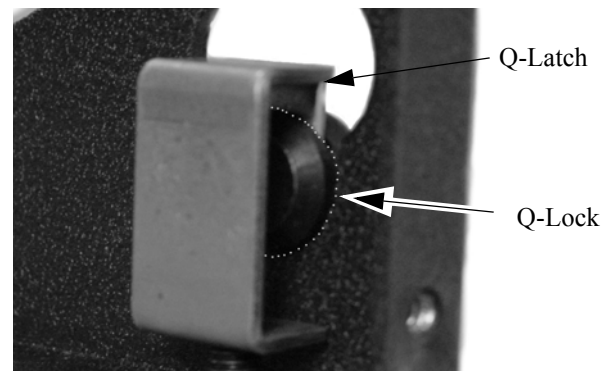

Figure 4. Install Q-Locks
5. Lock the display in place by installing two Q-clamps on each side of the bottom of face plate as shown in Figure 4.